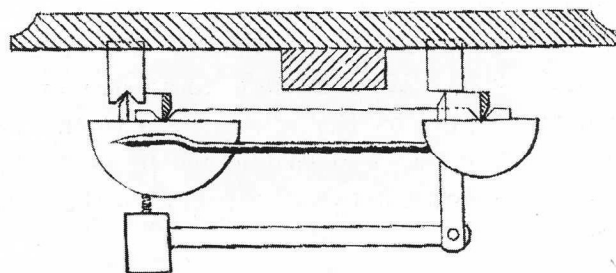

Fig. 4. ▲▲ Showing the two, different-sized poises with the left-hand poise having a cylinder-shaped poise screwed into its bottom.
Concerned that his first version oscillated for too long, Henry Weaver minimized the problem in his second version by dividing the poise into two smaller semicircular poises, one with a bigger radius than the other. See Fig. 4. This meant that the larger poise had a slower swing than the smaller poise, but, being on the same linkage, the swings retarded each other and the linkage quickly stopped moving.
fulcrum. Weaver used both methods, by having a little cylinder on a rod screwed into the underneath of the poise. The cylinder could be raised or lowered, nearer or further from the knife-edges, so could be adjusted to suit any pan or plate, or to alter the capacity of the scale. Two cylinders could be applied if desired, one each end of the semi-circular poise (behind the cylinder showing, as viewed in Fig. 4).
1. There is an error in Fig. 4 p 2513. The screw should have been loosened and screwed out of the casing, to permit the graduated arc to drop and thus put the pointer at zero when a container was added. The editor thanks Ritzo Holtman for this correction.